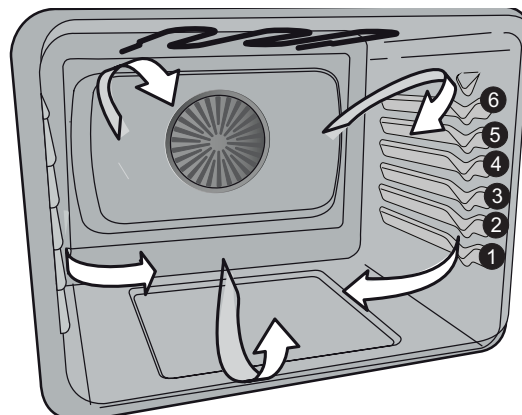

Figure 8: Oven rack positions
2. Press **self clean** to toggle between 12-Hr day or 24-Hr day display modes (Figure 8).
- Always place food in center of the oven on rack position 2 (Glide rack) or 3 (Flat rack) in the upper oven, or 3 (Flat rack) in the lower oven. (Figure 8).